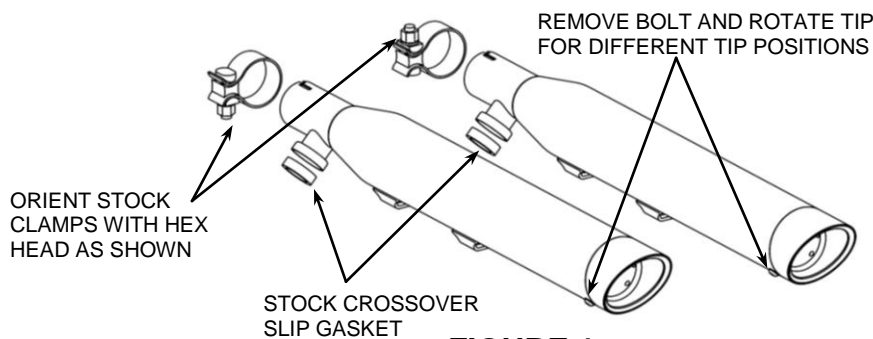

FIGURE 1
6. Slide the stock clamps over the slip-on mufflers and position them as shown in **Figure 1**.
12. NOTE: Remove the exhaust tip bolt to rotate the tip to various positions for different visual effects. See **Figure 1**.